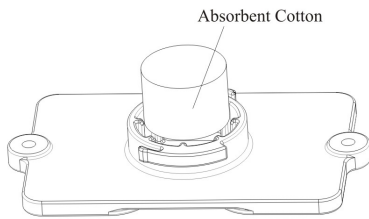

Figure 9
- 2.2.** After solving the leakage, please replace the absorbent cotton in the controller as Figure 9 shows.